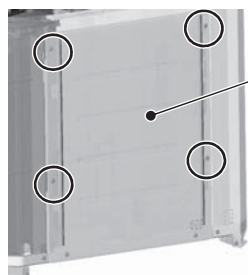

Figure 1
- (1) Remove the front heat exchanger. Refer to 8-13-7 Maintenance Procedures for the Heat Exchanger for details.
- (2) Remove the top, front, and right compressor covers. Refer to 8-13-4 Compressor Replacement Procedure for details.
- (3) Remove the duct from the control box. Refer to the control box replacement procedure for details.
- (4) Remove the right and inside (right) compressor panels by unscrewing the four screws. (Applicable only to the S-module. See Figures 1 and 2.)